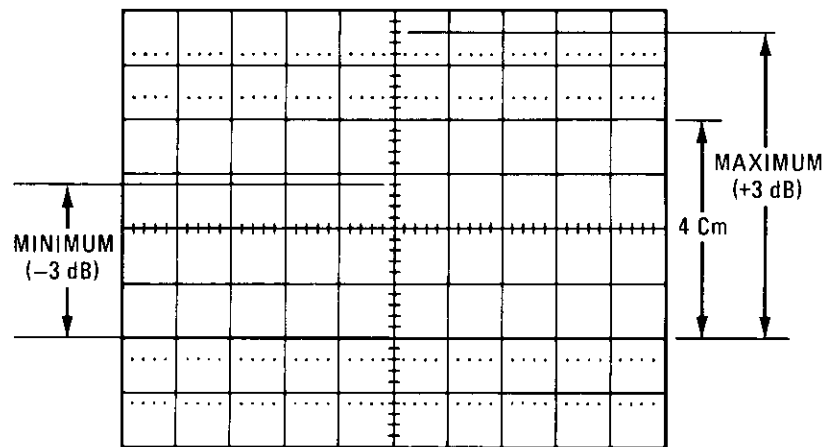

Figure 5-52. Flatness Response
13. Sweep the function generator frequency from 100 Hz to 10 MHz. Iterate between adjustments A5C14 (LO) and A5R75 (HI) to obtain the most constant overall response from 100 Hz to 10 MHz.
14. Check that the  $\pm 3$  dB flatness specification is met between 100 Hz and 2 MHz as follows. Sweep the function generator frequency between 100 Hz and 2 MHz. On the oscilloscope, note the maximum point (+3.0 dB) can be up to 5.6 divisions, and the minimum point (-3.0 dB) which can be down to 2.8 divisions. Refer to Figure 5-52.